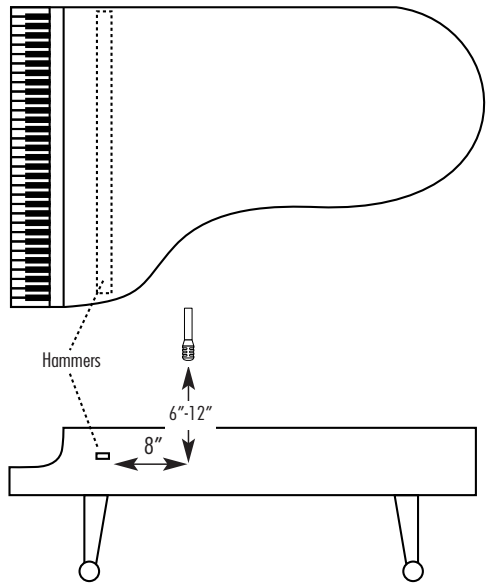

Figure 6
**Piano**—For a grand or baby grand, place a condenser microphone roughly 12 inches above the middle strings, and 8 inches from the hammers. The lid should be at full stick to allow enough clearance for the microphone. For an upright, place a similar microphone just over the open top, above the treble strings (see figure 6).